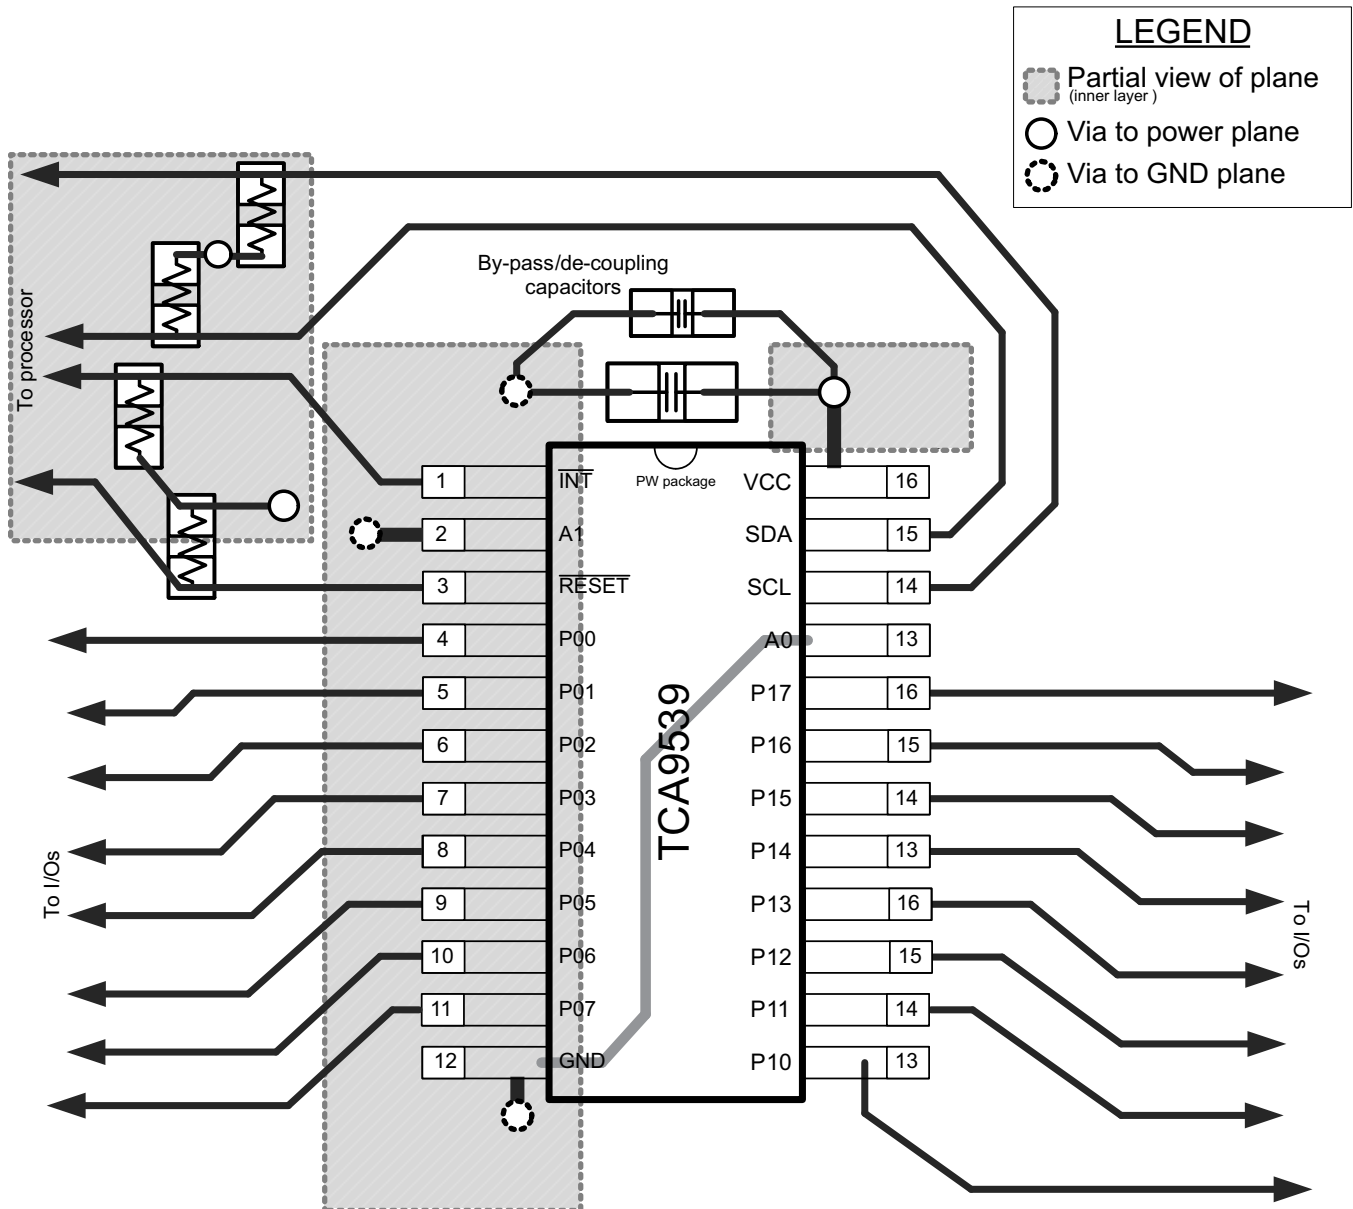

Figure 43. TCA9539 Layout
In all PCB layouts, it is a best practice to avoid right angles in signal traces, to fan out signal traces away from each other upon leaving the vicinity of an integrated circuit (IC), and to use thicker trace widths to carry higher amounts of current that commonly pass through power and ground traces. By-pass and de-coupling capacitors are commonly used to control the voltage on the VCC pin, using a larger capacitor to provide additional power in the event of a short power supply glitch and a smaller capacitor to filter out high-frequency ripple. These capacitors must be placed as close to the TCA9539 as possible. These best practices are shown in Figure 43.
For the layout example provided in Figure 43, it would be possible to fabricate a PCB with only 2 layers by using the top layer for signal routing and the bottom layer as a split plane for power (VCC) and ground (GND). However, a 4 layer board is preferable for boards with higher density signal routing. On a 4 layer PCB, it is common to route signals on the top and bottom layer, dedicate one internal layer to a ground plane, and dedicate the other internal layer to a power plane. In a board layout using planes or split planes for power and ground, vias are placed directly next to the surface mount component pad which must attach to VCC or GND and the via is connected electrically to the internal layer or the other side of the board. Vias are also used when a signal trace must be routed to the opposite side of the board, but this technique is not demonstrated in Figure 43.